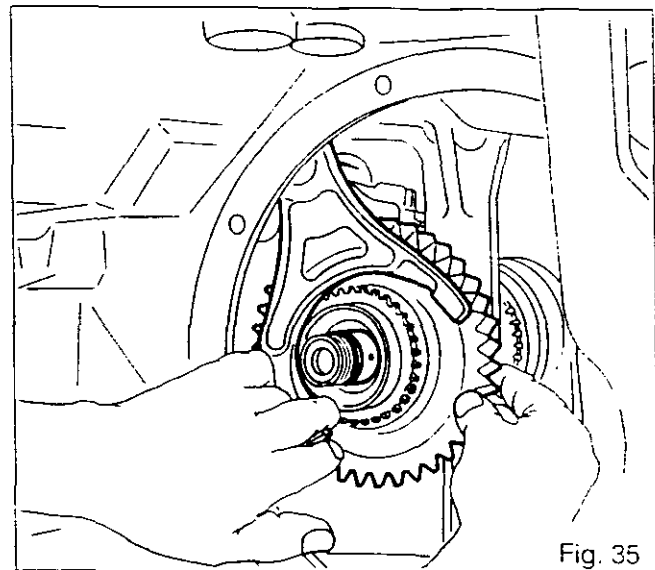

Fig. 35
111. Slide the A gear (67) on to the shaft with the bush /81\ (stepped side facing the synchromesh) and the double needle roller bearing (79) inserting the A/B fork into the housing (Fig.35).